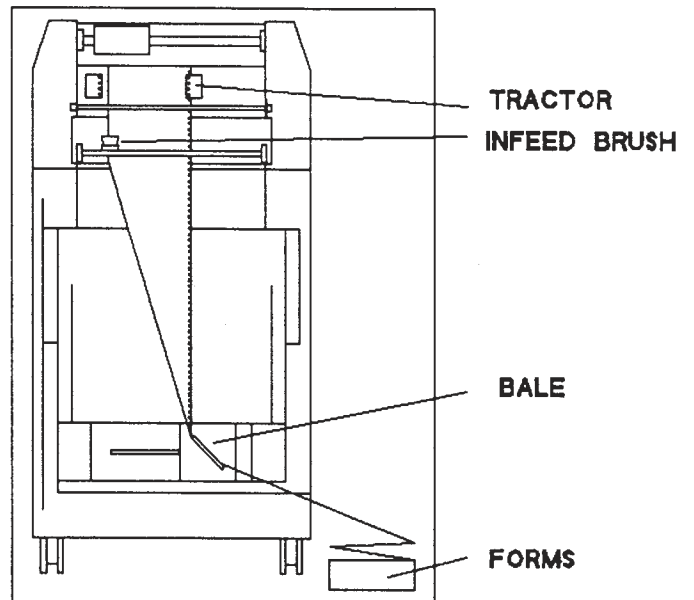

Fig. 13
2. Thread forms through folding bale. (Fig. 13) If you are going to imprint, arrange forms so that side to be imprinted is facing down.
3. Folding bale should line up with infeed guides so edge of the form is in a straight line. (Fig. 13)
4. Position the infeed brush to the side of the forms opposite tractor being used. (Fig. 13)